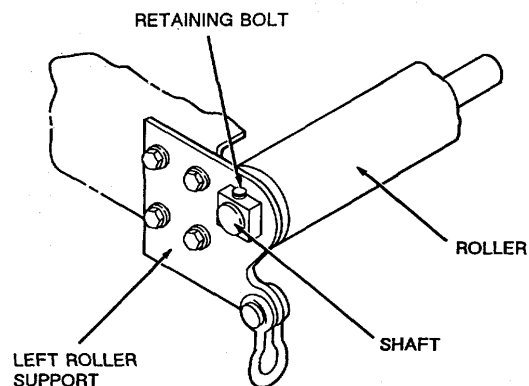

Figure 4-8. XM920 Roller.
- a. Support roller (see Figure 4-8) with a mechanical device.